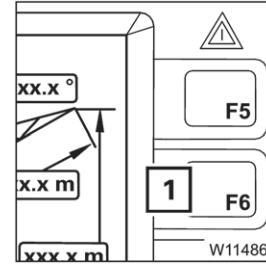

FIGURE 3-95
In the Monitoring main menu or submenu, press the F6 button (1) (Figure 3-95) once.